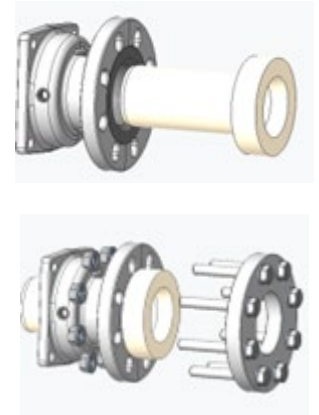

Figure 11. - Port flange with insert
1. Slide the insert into the port flange and fix it with a counter flange (Figure 11).